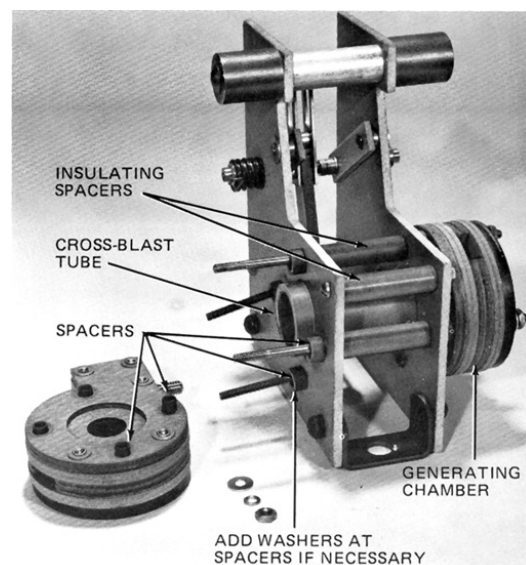

Figure 10. Partially assembled contact box
5. Holding the moving contacts open, loop a light cord to the contact spring at the end farthest from the crossblast structure (Figure 10) and unhook both springs. Do not stretch the springs any further than required for removal.